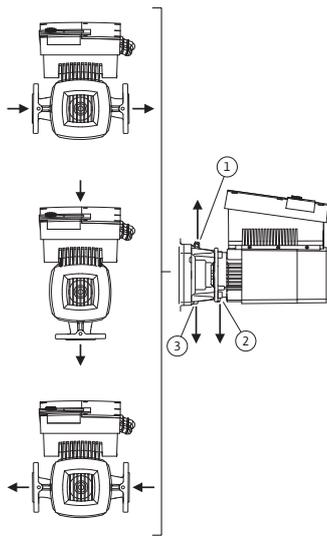

Fig. 23: Permitted installation positions with horizontal motor shaft
The permitted installation positions with horizontal motor shaft and electronic module facing up ( $0^\circ$ ) are shown in Fig. 23. The permissible installation positions with electronic module mounted on the side ( $+/-90^\circ$ ) are not shown. Any installation position is allowed except for “electronic module facing down” ( $-180^\circ$ ). Venting of the pump is only ensured when the air vent valve is pointing upwards (Fig. 23, Item 1). Condensate can only be directed away via existing drilled holes, pump lantern (Fig. 23, Item 3) and motor (Fig. 23, Item 2) in this position ( $0^\circ$ ). To do so, remove the plug from the motor flange (Fig. 7, Item 7a).
- With a horizontal motor shaft, the condensate hole must be positioned towards the bottom (Fig. 23, Item 2). If necessary, the motor must be turned accordingly.